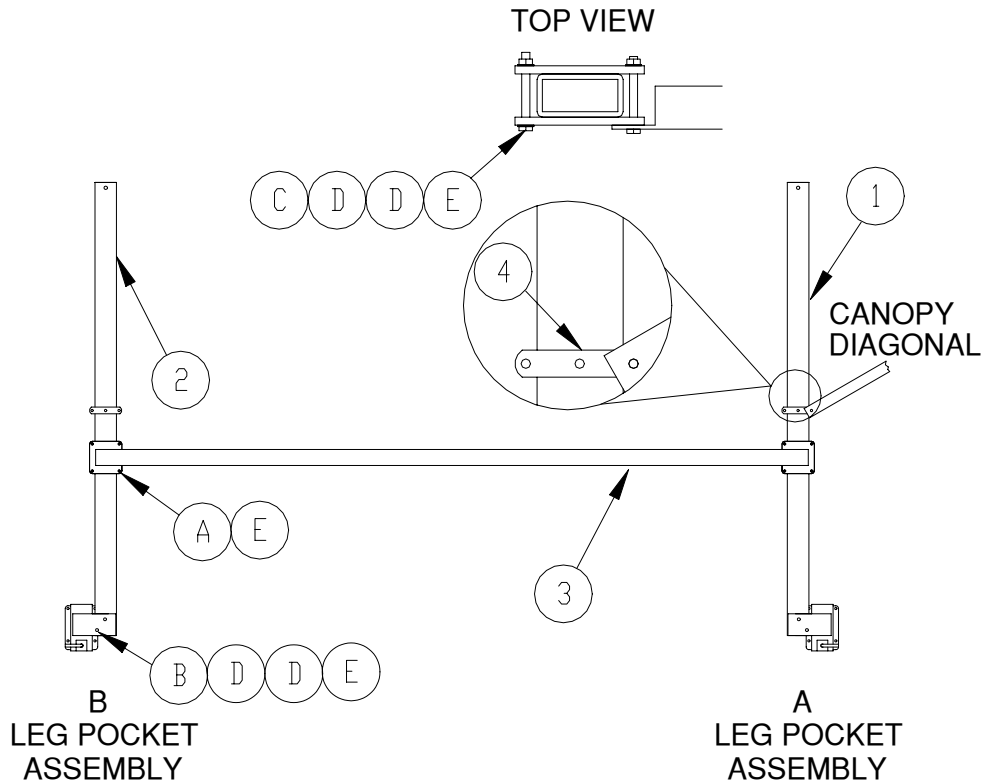

Figure 1
3. Mount the Canopy Support Post (A) **#1** into the (A) Leg Pocket Assembly as shown in Figure 1 using bolts **B**, flat washer **D** next to bolt heads, flat washer **D** next to locknuts, and locknuts **E**. Do not tighten any hardware until all components on one side of the lift are completely assembled.
4. Mount the Canopy Support Post (B) **#2** into the (B) Leg Pocket Assembly as shown in Figure 1 using bolt **B**, flat washer **D** next to bolt heads, flat washer **D** next to locknuts, and locknuts **E**.
5. Bolt the Canopy Support Horizontal **#3** to both Canopy Support Posts **#1** and **#2** as shown in Figure 1 using bolts **A** and locknuts **E**. Tighten all hardware.
7. The Three Hole Plates **#4** connect the Canopy Diagonal Brace, supplied with the canopy frame, to the Canopy Support Posts **#1** and **#2**. Loosely attach (2) Three Hole Plates **#4** on each Canopy Support Post as shown in Figure 1 using bolt **C**, flat washer **D** next to bolt head, flat washer **D** next to locknut, and locknut **E**. Position the Three Hole Plate so the diagonal brace is at approximately a 30 degree angle and tighten hardware.